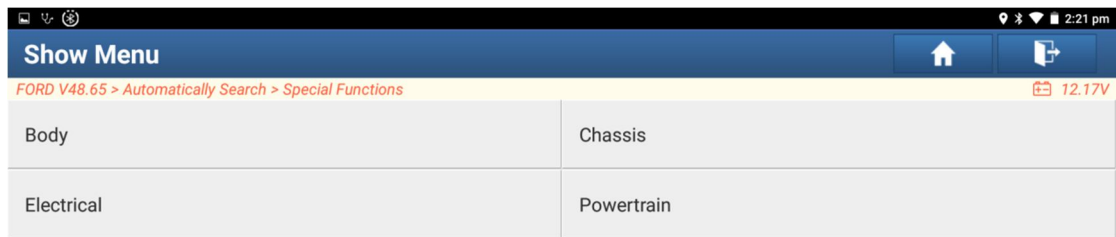

Figure 5
4. Select [Electrical] (Figure 5).